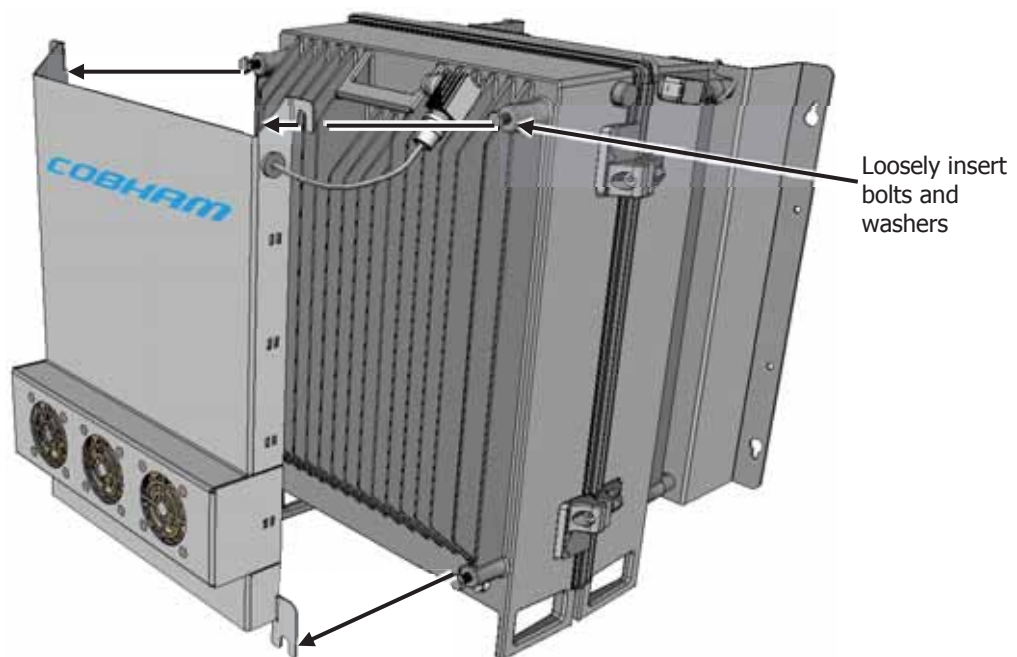

Figure 5-11. Assembling Front Fan Hood — Inserting Bolts and Hanging Front Fan Hood
- Referring to Figure 5-11, loosely insert the four M8x16 bolts and washers.